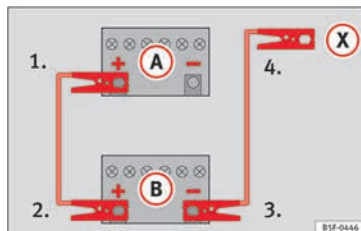

Fig. 76 Diagram of connections for vehicles without Start-Stop system.
- Connect one end of the *red* jump lead to the positive (+) terminal of the vehicle with the flat battery (A) »» Fig. 76.
- Connect the other end of the *red* jump lead to the positive terminal (+) in the vehicle providing assistance (B).
- For vehicles without Start-Stop system:* connect one end of the *black* jump lead to the negative terminal (-) of the vehicle providing the current (B) »» Fig. 76.